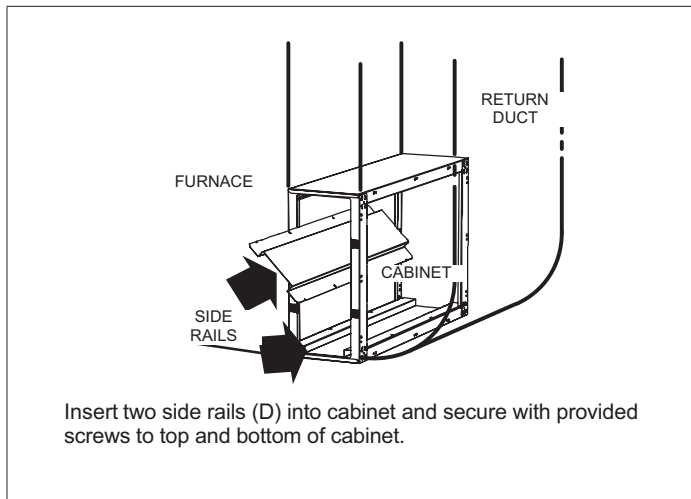

Figure 13. Install Side Rails
NOTE: Side rails (D) are attached to the cabinet after the cabinet is installed on the Furnace/Air Handler (see Figure 13 on page 6).
7. Insert side rails (D) into the cabinet and use the provided screws to secure them to the cabinet at both the top and bottom (see figure 13).